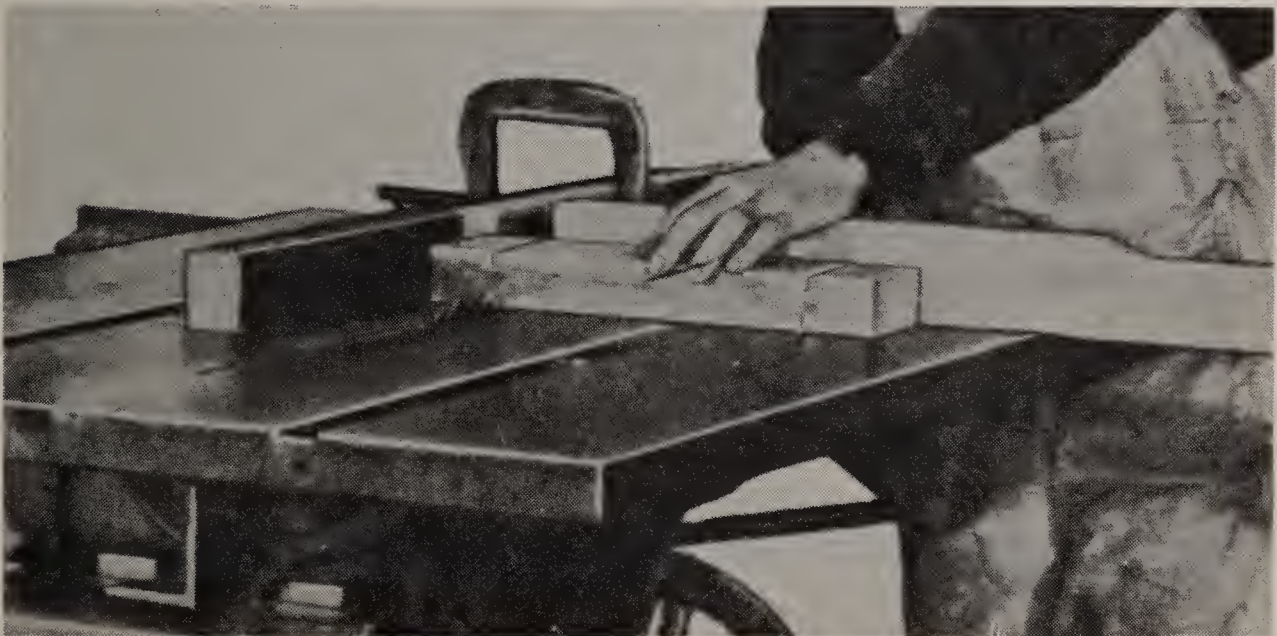

Fig. 27. Cutting shoulder of tenon, using clearance block on fence as a guide.
5. Use the ripping fence, stop block, or clearance block to control the length of tenon as shown in Fig. 27.